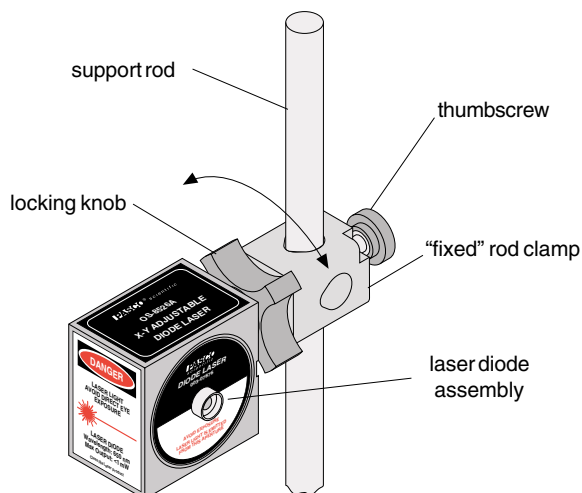

Figure 2: X-Y Adjustable Diode Laser Alignment
- ③ Loosen the locking knob and rotate the laser diode assembly into the desired position. See Figure 2.
- ④ Tighten the locking knob against the laser diode housing until secure.